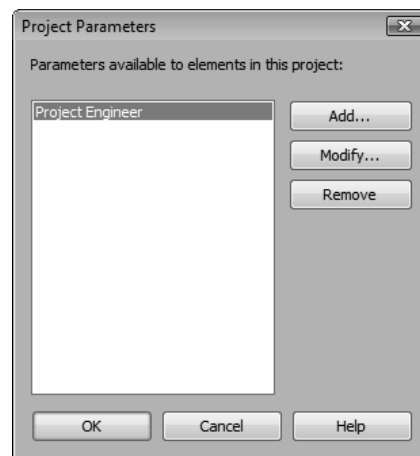

Figure 3-41 The **Project Parameters** dialog box
10. Choose the **OK** button in the **Parameter Properties** dialog box; the **Project Parameters** dialog box is displayed, as shown in Figure 3-41.